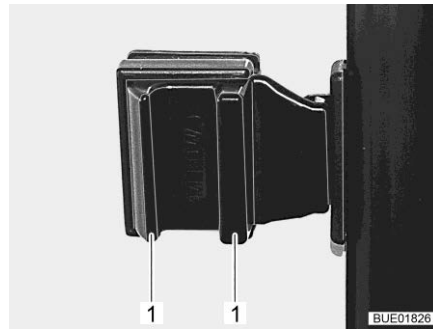

Fig. 100 Sliding window with pressure lock
- Press the handles (Fig. 100,1) together and hold them in place.